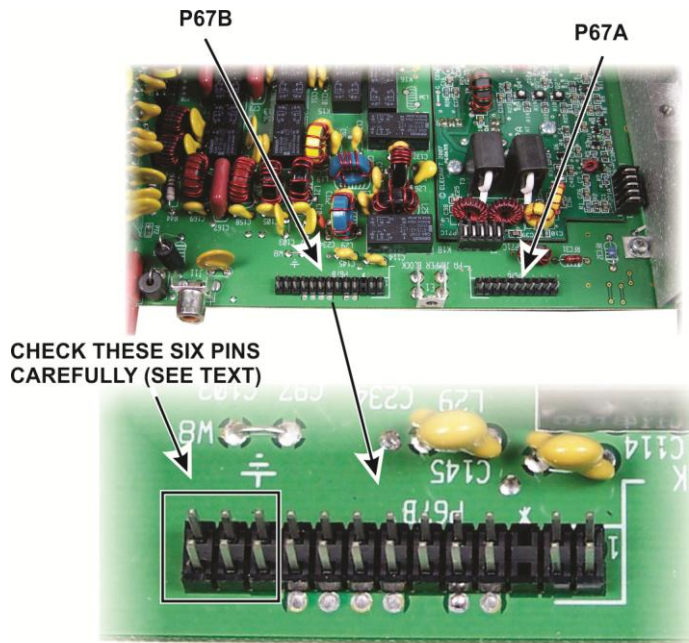

Figure 13. Connector Locations on K3 RF Board.
Locate male multi-pin connectors P67A and P67B near the back edge of the K3 main (RF) circuit board (see Figure 13). Inspect the six pins on P67B at the end of the connector for signs of corrosion or discoloration indicating that it has overheated.